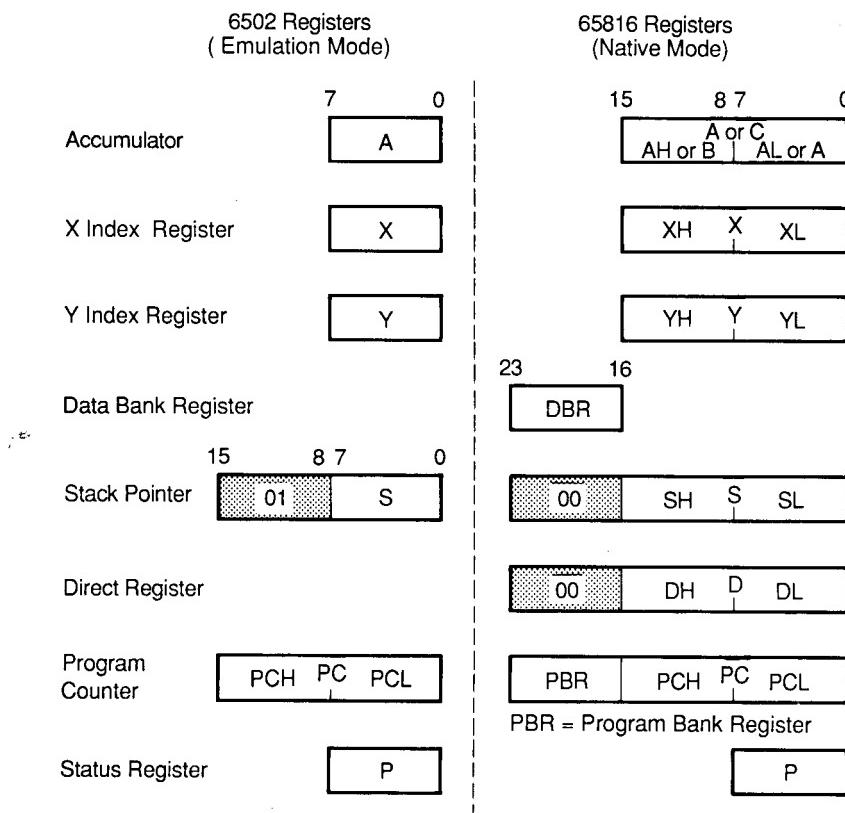

Figure 1-1
Figure 1-1 shows the 65816’s internal registers and, because it can operate in emulation mode, the 6502’s registers. Note that the 6502’s data registers (A, X, and Y) and status register (P) are 8 bits long, whereas its address registers (S and PC) are 16 bits long. This is typical for an 8-bit microprocessor; it has an 8-bit data bus and a 16-bit address bus. (Incidentally, the
Lest you be mistaken, I must emphasize that the 65816 contains only *one* set of registers: those shown in the right-hand column of Figure 1-1. When emulating a 6502, however, the 816 uses those registers as a 6502 would. It interprets any program reference to the A or X register as meaning AL or XL, limits the stack pointer to 16 bits (and puts hex 01 in the upper
As the shaded “00” in Figure 1-1 indicates, the stack is always in bank 0. Note, however, that while the 6502’s stack must be in page 1, the 65816’s stack can be in any page. In general, though, you shouldn’t worry about where the stack is located, what the stack pointer contains, or what’s on the stack (unless you specifically stored something there). The computer’s software handles all stack operations, so unless you do something awful — such as push two items on the stack but extract only one — you should have no problems.